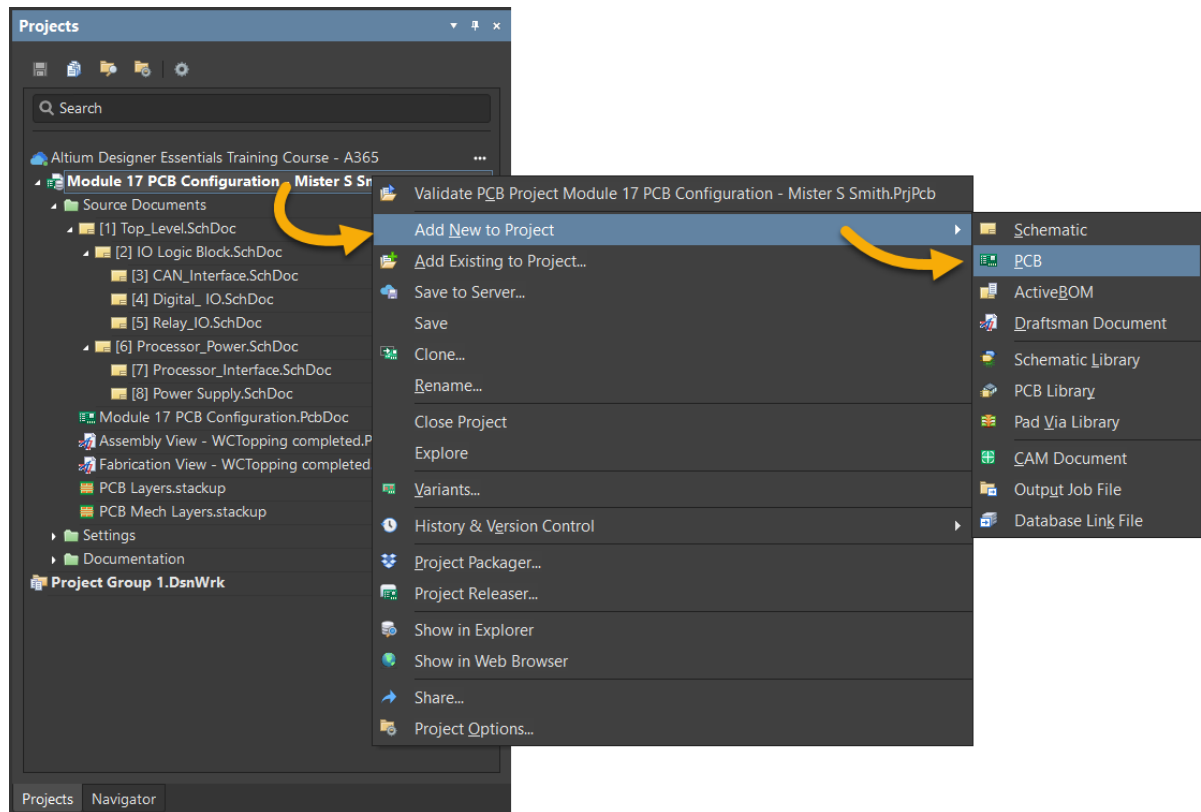

Figure 1. Add new PCB to the Project
8. Add a new PCB document to the project by opening the *Projects* panel and right-clicking on the project name. From the right-click menu, select **Add New to Project » PCB** as seen in Figure 1 below.